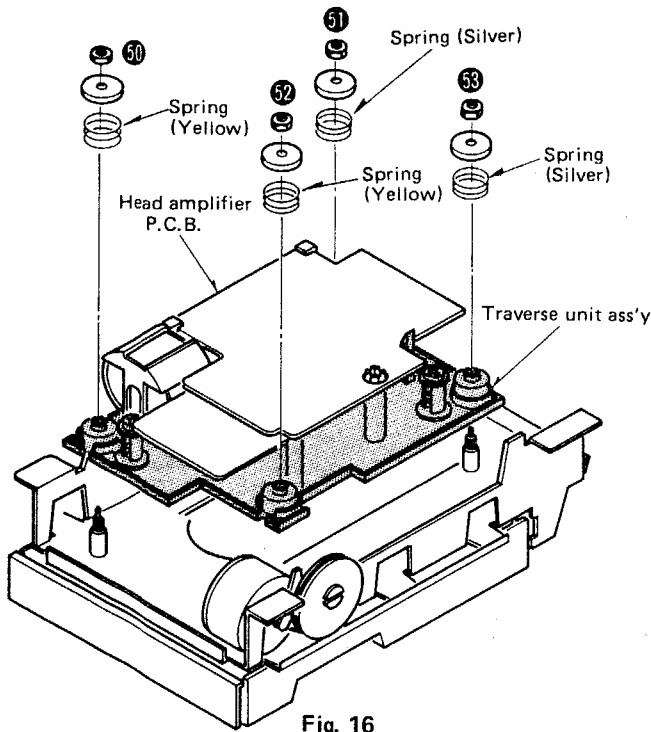

Fig. 16
5. Turn over the traverse unit and remove the nuts [Fig. 16: 50 ~ 53], then the traverse unit ass'y can be removed.